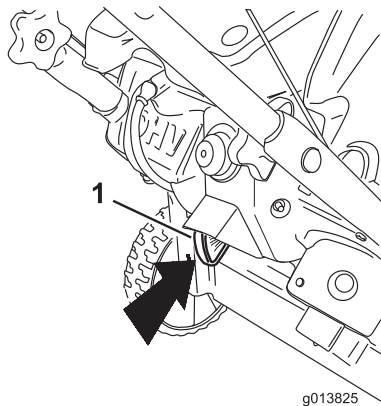

Figure 15
- 1. Push the ignition key fully inward to the ON position (Figure 15).